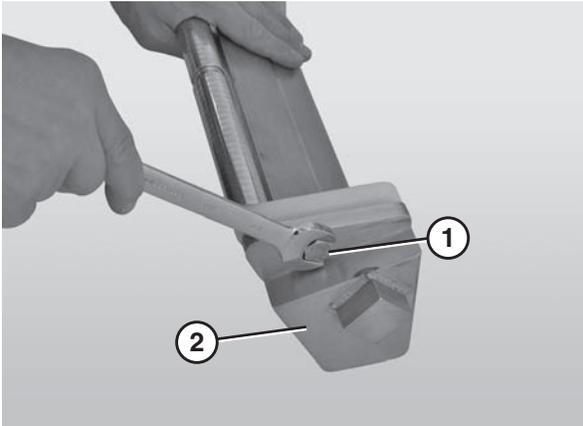

Figure 83
4. Use a 17 mm wrench to remove both pilot nose bolts (**Figure 83, item 1**) from the nose bar weldment (**Figure 83, item 2**).